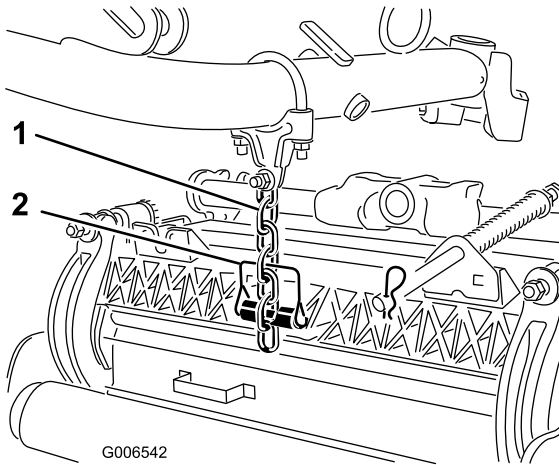

Figure 13
8. Secure the lift arm chain to the cutting unit chain bracket (Figure 13) with the snapper pin as follows: